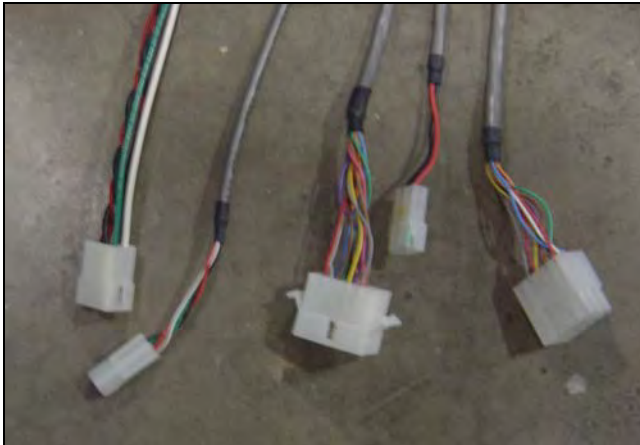

Figure 5 Wire Harness from front cabinet
**NOTE:** The cables in the middle cabinet are universal cables therefore the number and color of wires does not matter. Match connector size only. See Figure 5